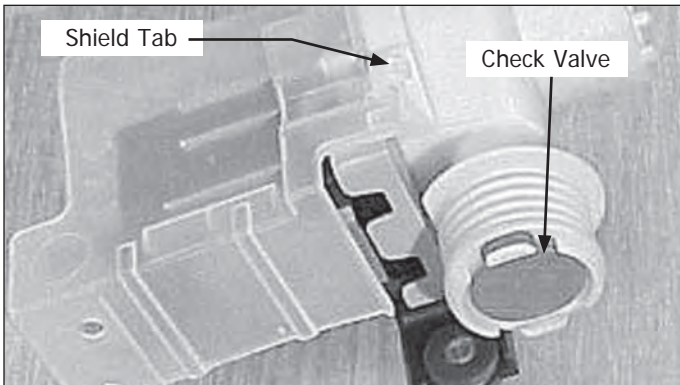

Figure 4-74.
1. The drain pump check valve is located in the outlet of the pump. (See Figure 4-74)
2. Remove the shield by releasing the tab and pulling back on the shield. (See Figure 4-74)